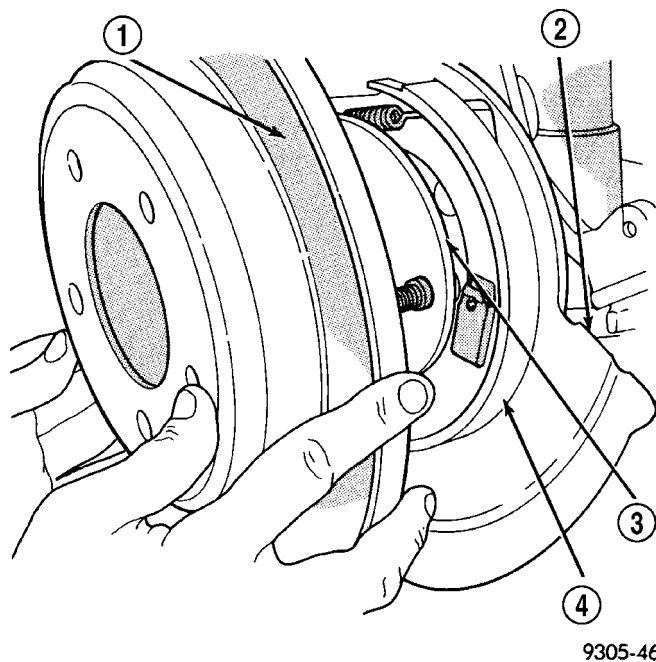

Fig. 94 Rear Rotor Removal/Installation
(1) Remove disc brake caliper and store (hang) it out of the way following the procedure found in Brake Pads/Shoes. (Refer to 5 - BRAKES - BASE/HYDRAULIC/MECHANICAL/BRAKE PADS/SHOES - REMOVAL)
(2) Remove any clips retaining the brake rotor to the wheel mounting studs.
(3) Remove the rear rotor from hub by pulling it straight off the wheel mounting studs (Fig. 94).
(1) Install brake rotor over the wheel mounting studs onto hub (Fig. 94).
(2) Install disc brake caliper and shoes following the procedure found in Brake Pads/Shoes. (Refer to 5 - BRAKES - BASE/HYDRAULIC/MECHANICAL/ BRAKE PADS/SHOES - INSTALLATION)
(3) Adjust parking brake shoes as necessary.
(4) Pump the brake pedal several times to ensure the vehicle has a firm brake pedal to adequately stop vehicle.
(5) Check and adjust brake fluid level as necessary.